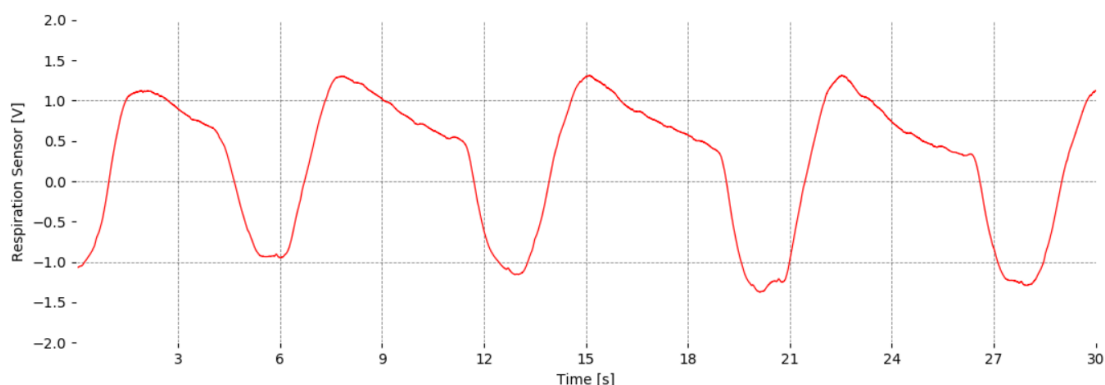

Figure 2: Typical unfiltered sensor output (at rest and during a deep breath)
Figure 2 shows a typical unfiltered **PZT** sensor output acquired while at rest and during a deep breath. The raw digital sensor values received from the **biosignalsplux** device ranged between 0 and  $2^n-1$  ( $n$ =sampling resolution) and can be converted into the original unit of measurement of this sensor (V) using the transfer function found in section **Transfer Function (Conversion Formula)**.